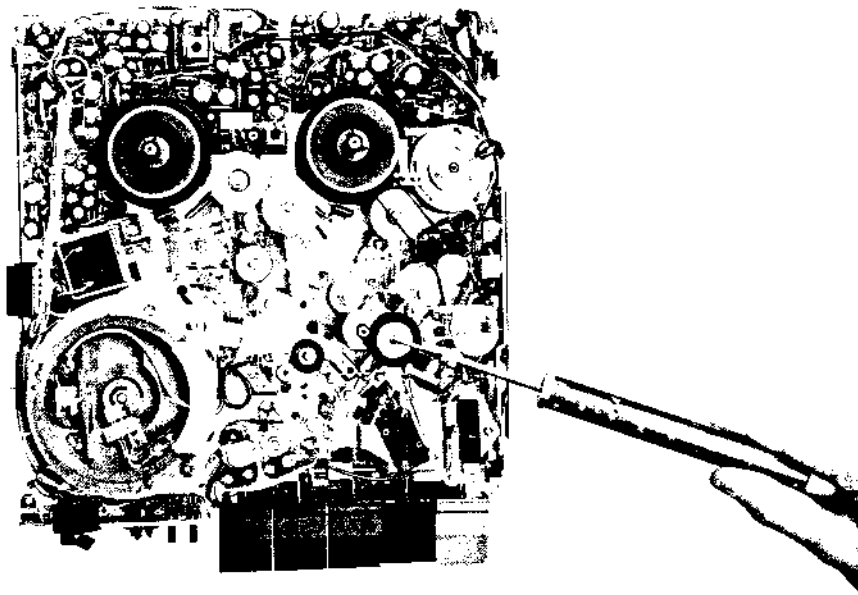

Fig. 1-3
- d) As shown in Fig. 1-3, at playback mode, use a 0 to 2 kg. spring gauge and measure the pinch roller pressure when pinch roller rotation stops. Loosen pinch roller spring lock nut and adjust pressure to about 2 kg by turning adjustment nut. Tighten lock nut following adjustment. (When tightening lock nut, be careful not to rotate adjustment nut as this will change the pressure).